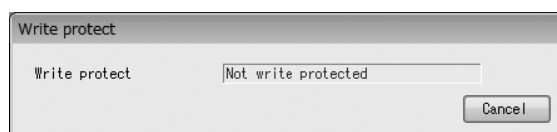

Fig. 3-27
(1) Click "Process Variables(V)" in the upper part of the screen, and then click on "Write protect". Then, the following window (Fig. 3-27) will be displayed.